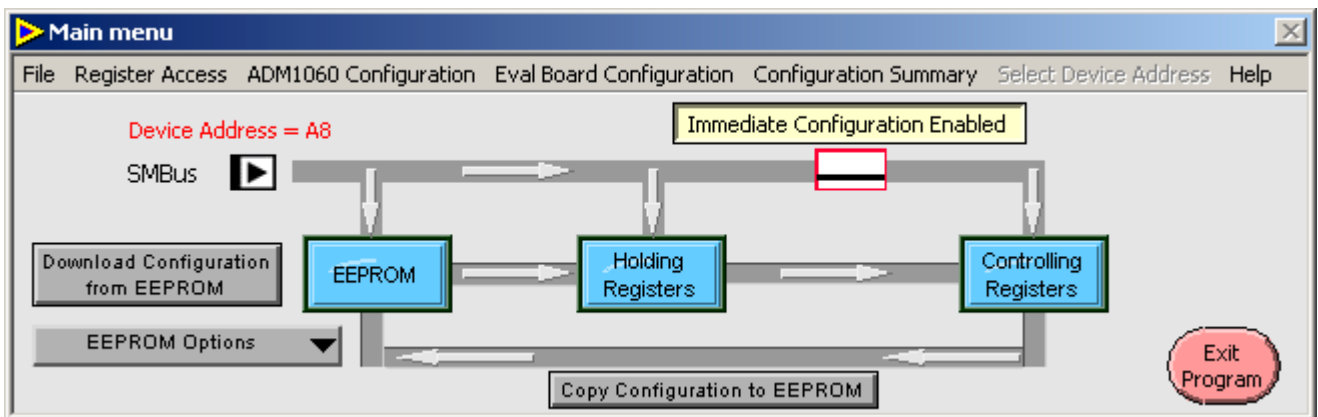

Figure 23. Floating Menu Bar (Normal mode)
1. **Normal Mode (Figure 23):** One ADM1060 detected; working on-line. Figure 23.